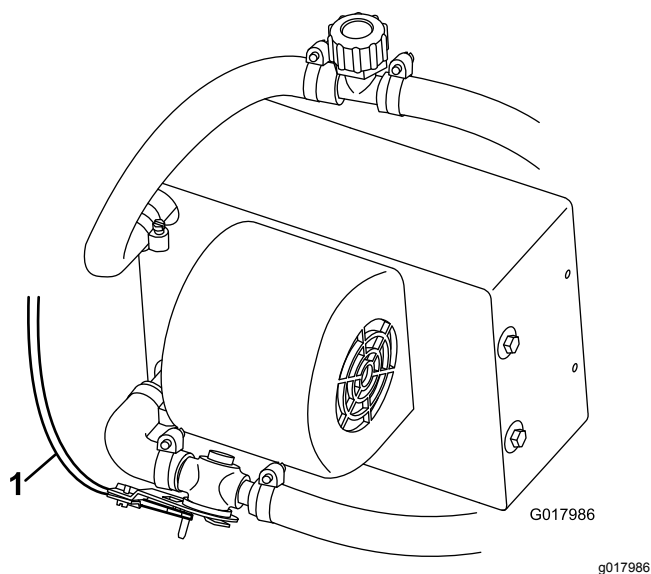

Figure 24
8. Route and connect the heater-control cable to the heater valve (Figure 24).